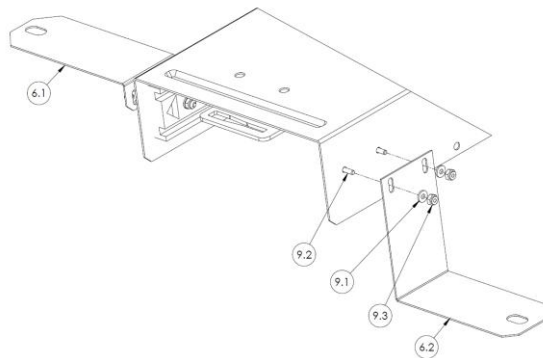

Figure 2
3. Remove the two forward #9.2 Screws from the interior slides and enclosure. Place them in the Key Bag with the other hardware. (Figure 2)